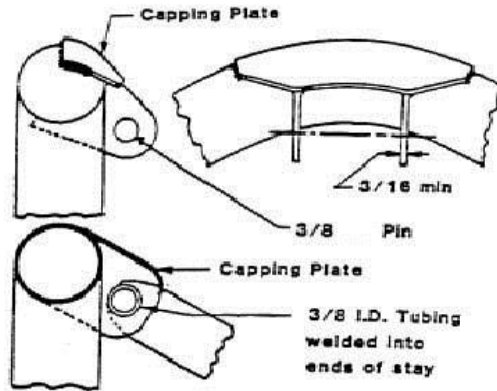
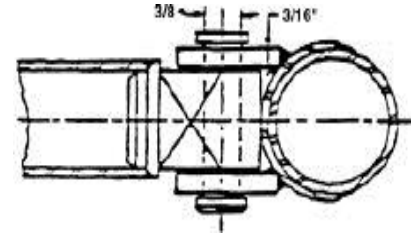
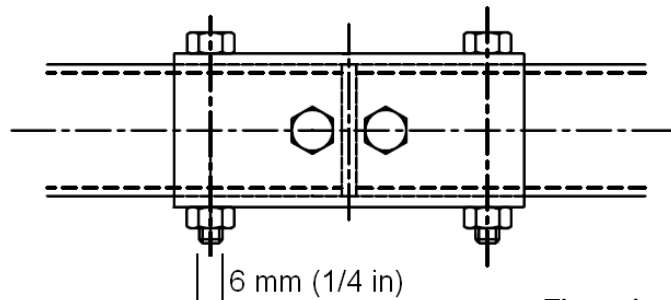

Figure 2
Figure 3
Figure 4
(A) Roll Hoop bracing may be removable. Any non-permanent joint must be either a double-lug joint as shown in figures 2 and 3, or a sleeved butt joint as shown in Figure 4. The threaded fasteners used to secure non-permanent joints are considered critical fasteners and must comply with paragraph 3.7.2.2. No spherical rod ends are allowed.
(B) For double-lug joints, each lug must be at least 4.5 mm (0.177 in) thick steel, measure 25 mm (1.0 in) minimum perpendicular to the axis of the bracing and be as short as practical along the axis of the bracing. All double-lug joints must include a capping arrangement (figure 2) and/or a doubler (figure 3), fabricated of at least 1.65 mm (0.065 in) steel. If a doubler is used, it must extend at least 120 degrees around the frame member. The pin or bolt must be 10 mm Grade 9.8 (3/8 in. Grade 8) minimum. The attachment holes in the lugs and in the attached bracing must be a close fit with the pin or bolt.
REMOVABLE ROLL BAR BRACES ATTACHMENT DETAILS (FIGURES 2, 3 & 4)